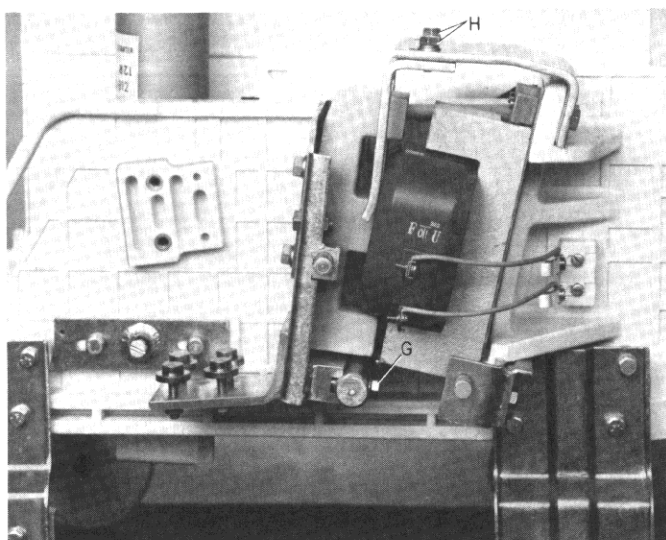

Figure 7. Coil replacement Step 4 and Step 5 — removal of armature assembly and coil retainer bolts
4. Remove the two (2) armature assembly mounting bolts ("G" Figure 7).
5. Remove the coil retainer mounting bolts ("H", Figure 7).